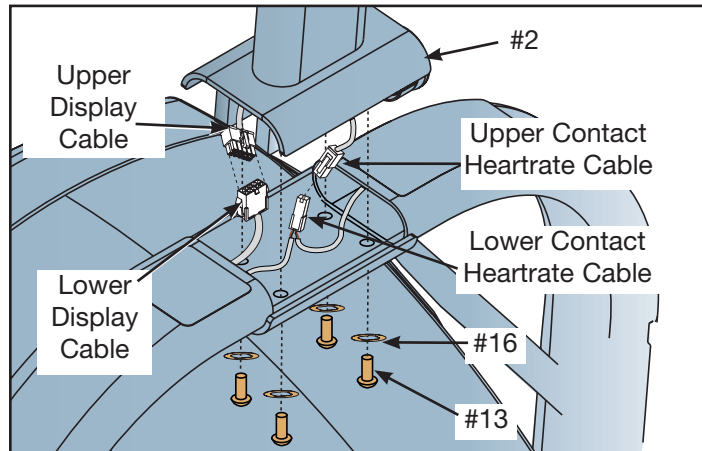

Figure 4
- B. Locate the upper display cable and plug it into the lower display cable in the main frame assembly. See Figure 4.
- C. Locate the upper contact heartrate cable and plug it into the lower contact heartrate cable in the main frame assembly. See Figure 4.
- D. Place the console assembly (#2) in the correct position on the main frame assembly and hand thread each of the four screws .375-16 x 1.50 (#13) and four washers (#16). See Figure 4.